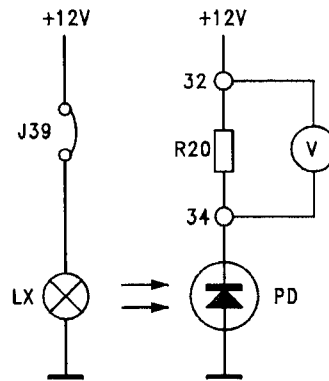

fig. B15.5
- Connect jumper J39 and the voltmeter across the resistance R20 (figure B15.5)